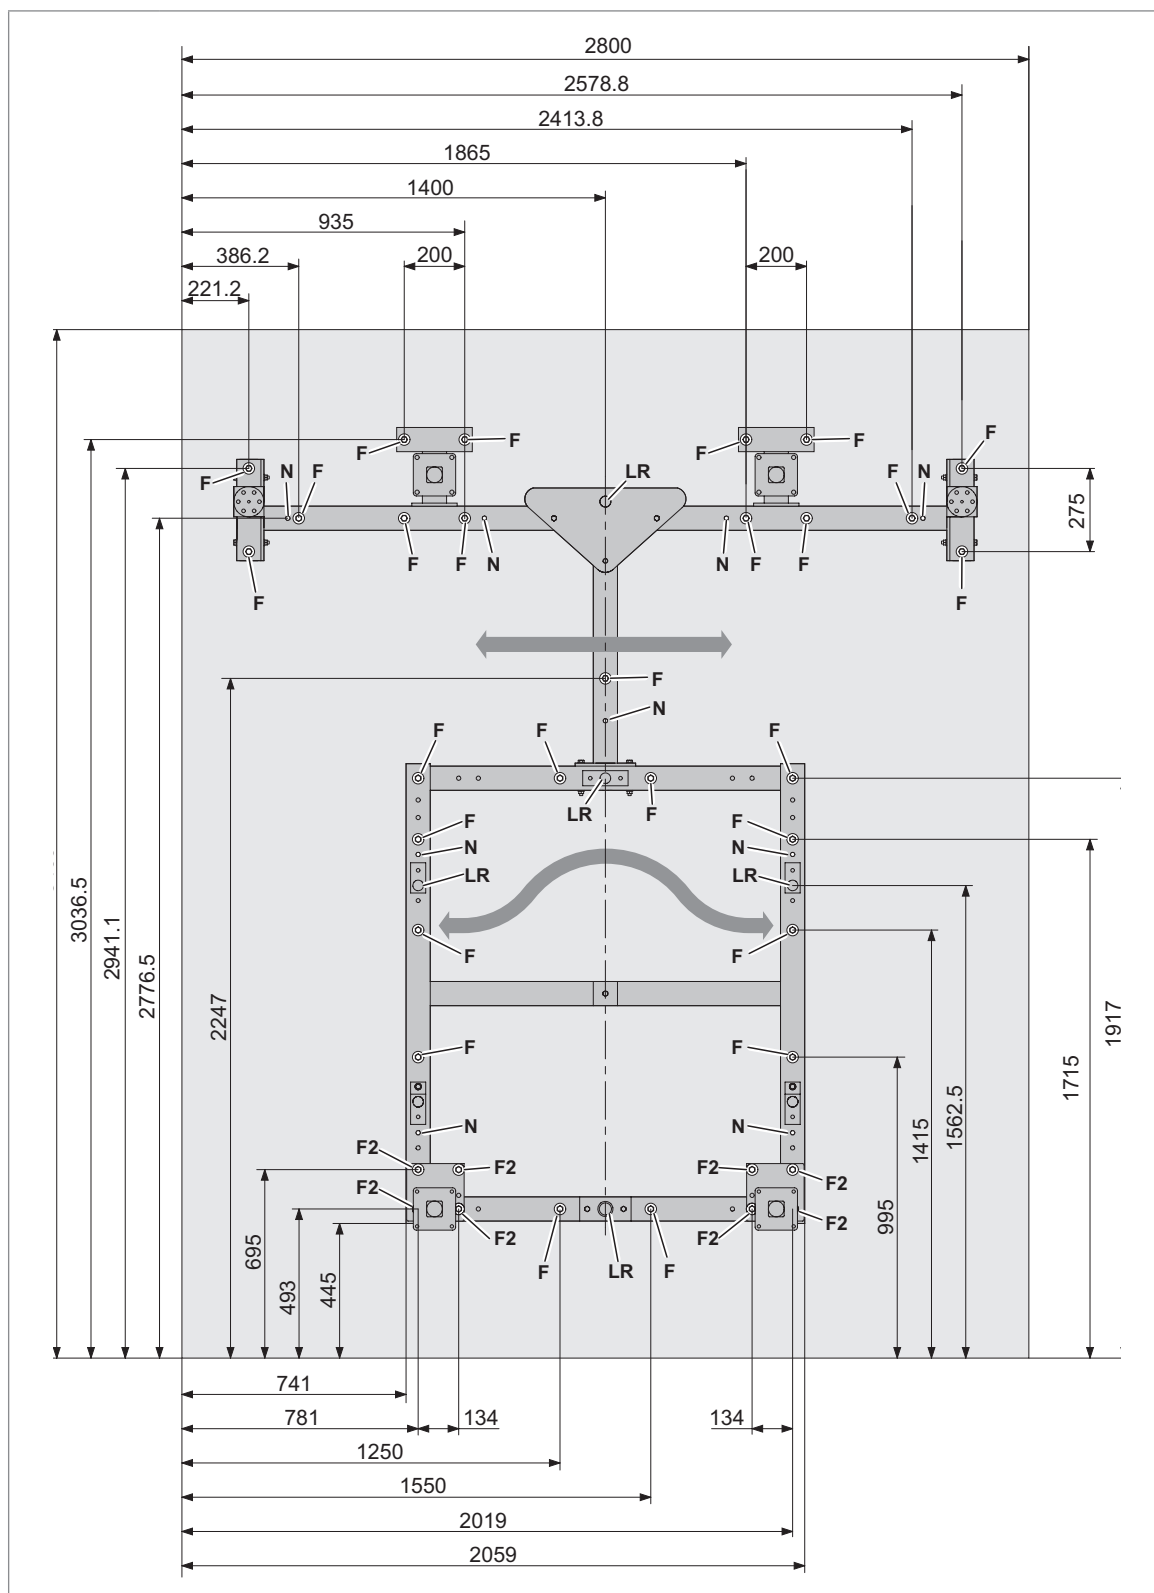

Fig. 14: Foundation and empty conduit plan for base frame FURA-B (MPB with optional roof) – top view (dimensions in mm)
- 3 Adapter for roof (1 piece), mounted over foundation anchor ↗ Page 41, Fig. 14
- 4 Adapter for roof (1 piece), mounted over foundation anchor ↗ Page 41, Fig. 14